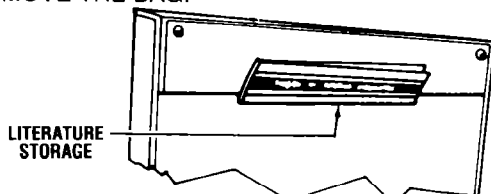

FIGURE 6
5. Remove any materials that are shipped in the drawer. Some models have a literature storage compartment located inside the front panel. See Figure 6. DO NOT REMOVE THE BAG.